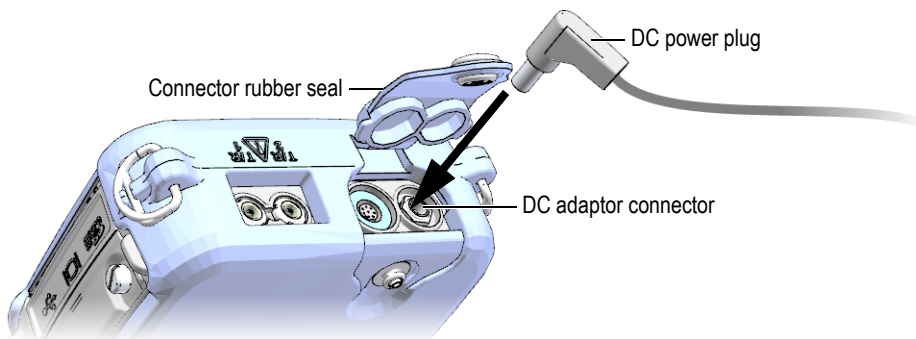

Figure 2-3 Connecting the DC power plug
2. On the 38DL PLUS, lift the rubber seal covering the DC adaptor connector on top of the 38DL PLUS (see Figure 2-3 on page 39).
3. Connect the DC power plug from the charger/adaptor to the DC adaptor connector (see Figure 2-3 on page 39).